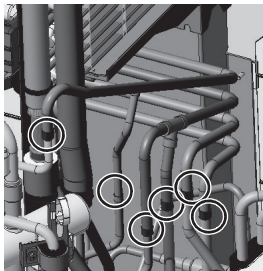

Figure 13
Removal of the right rear heat exchanger on a standard model (Figure 13)
- (8) Remove the braze at the six areas that are located on the right side of the four pipes on the back of the accumulator. (See Figure 13.)